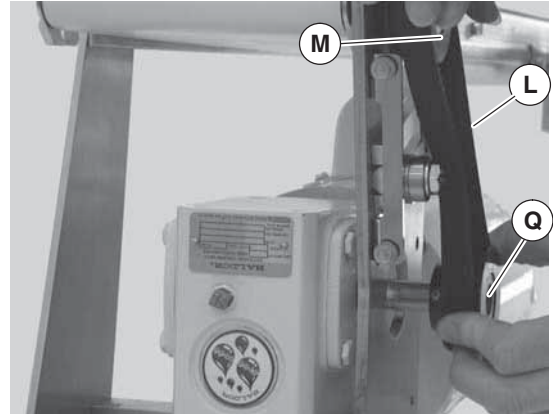

Figure 42
- Wrap timing belt (Figure 42, item L) around drive pulley (Q) and driven pulley (M). Attach drive pulley (Q) to gear reducer shaft.